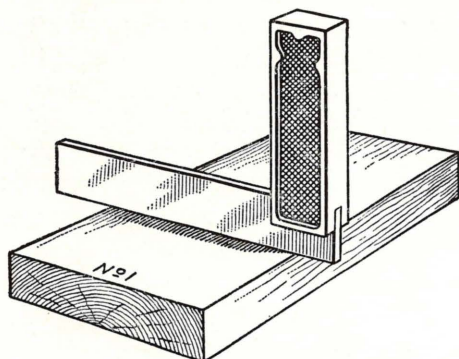

Fig. 25—Testing the face of a board
1. Plane the best broad surface smooth and true. The plane must be set to cut a fine shaving. Do not remove any more wood than is necessary to leave the surface smooth and true. Test carefully with a straight edge. Mark this surface No. 1. (See Fig. 25.)